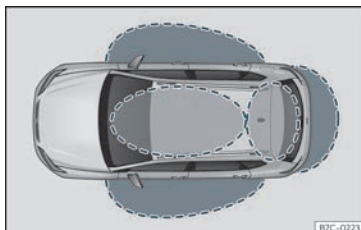
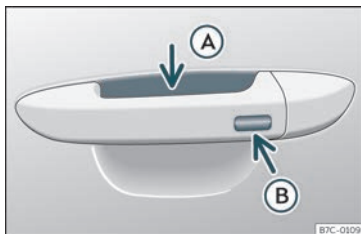

Fig. 76 Keyless Access: proximity zones.
Fig. 77 Door handle: sensor surfaces
in the detection area where you are attempting to access the vehicle»» Fig. 76 and to touch one of the sensor surfaces on the door handles»» Fig. 77 or operate the *softtouch*/handle on the rear lid
If a valid key is in the proximity of the car, »» Fig. 76 the Keyless Access locking and starting system gives the key entry as soon as one of the sensor surfaces on the door handles is touched or the *softtouch*/handle on the rear lid is operated. »
- Grip one of the front door handles. When you do this, you touch the sensor surface >>> Fig. 77 (A) (arrow) of the handle and the vehicle unlocks.
- Touch (*once*) the locking sensor surface >>> Fig. 77 (B) (arrow) on one of the front door handles. The door that is used must be closed.
- Touch (*once*) the sensor surface >>> Fig. 77 (B) (arrow) on one of the front door handles. The vehicle locks with the "Safe" security system >>> page 98. The door that is used must be closed.
- Touch (*twice*) the sensor surface >>> Fig. 77 (B) (arrow) of one of the front door handles to lock the vehicle without activating the "Safelock" security system >>> page 98.
When the vehicle is locked, the rear lid automatically unlocks on opening if there is a valid vehicle key in the proximity zone >>> Fig. 76.
- Push the central locking button  on the remote control and touch the locking sensor surface of the driver door handle >>> **Fig. 77**  within the following 5 seconds. Do not grasp the door handle; otherwise the vehicle will not unlock. Deactivation is also
To close all the electric windows and the sunroof using the **comfort function**, keep a finger for a few seconds on the locking sensor surface >>> **Fig. 77**  (arrow) of the door handle until the windows and roof have closed.
The sensor surfaces on the door handles could engage if hit with a water jet or high pressure steam if there is a valid vehicle key in the proximity. If at least one of the electric windows is open and the sensor surface >>> **Fig. 77**  (arrow) on one of the handles is
- **OR:** touch the sensor surface on the outside of the door handle *twice*>>> Fig. 77